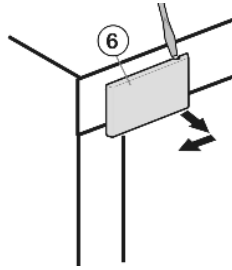

Fig. 27
- ▶ Loosen cover that is on the hinge side *Fig. 27 (6)* using a screwdriver and remove by pulling outwards.